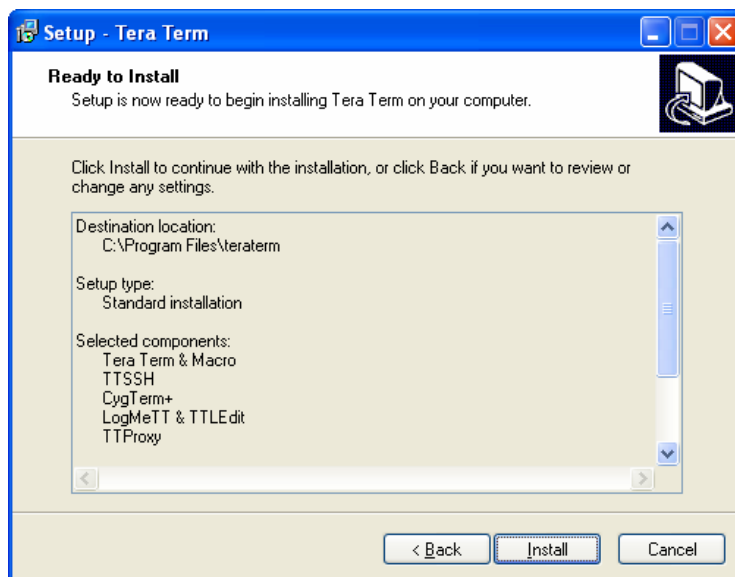

Figure 6-12: Ready to Install Screen
14. At the Ready to Install screen, then click **Install** (Figure 6-12).